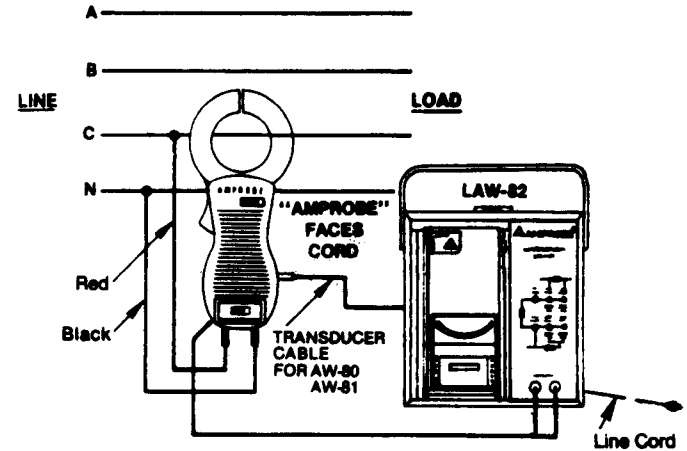

Figure 5
- b) Insert phono plug lead on LAW-82 (Transducer Cable. See Fig. 5) into jack on the right side of the AW-80/81.
- b) Insert phono plug lead on LAW-82 (Transducer Cable. See Fig. 5) into jack on the right side of the AW-80/AW-81.